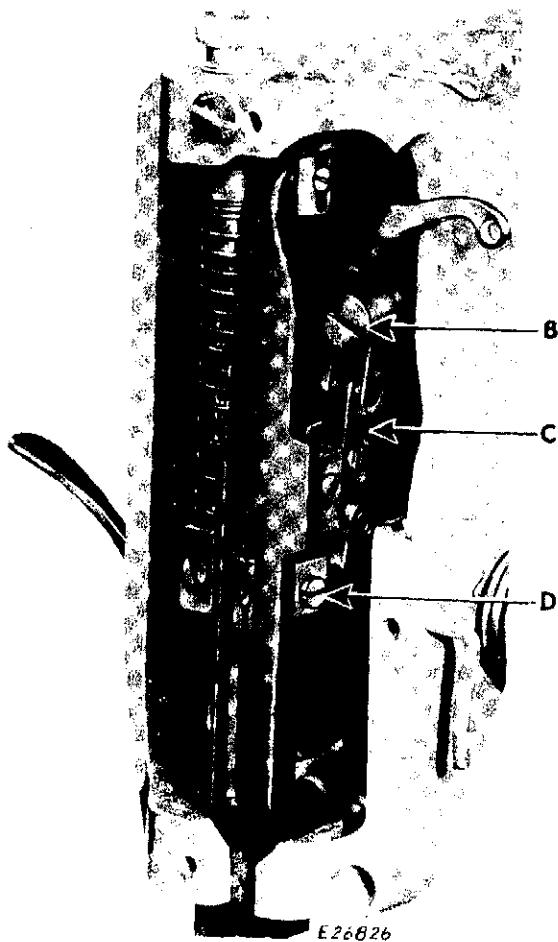

Fig. 258. To Replace Needle Bar Connecting Link
To replace the connecting link #105015 (C, Fig. 258):
- (d) Loosen needle bar screw D, Fig. 258 and pull needle bar down through throat plate opening.
- (e) Loosen screw B, Fig. 258 which holds thread take-up crank and ease out complete assembly.